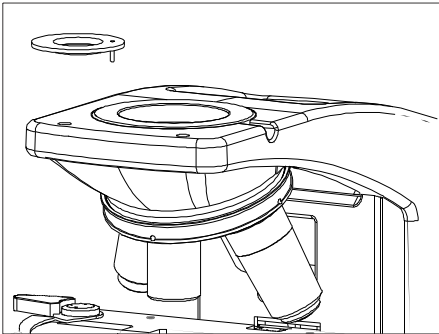

Fig. 6
1. Remove the observation head from its position and install the analyzer by firmly placing the positioning pin of analyzer into the locating hole of dovetail adapter as shown in Fig. 6 and Fig. 7.